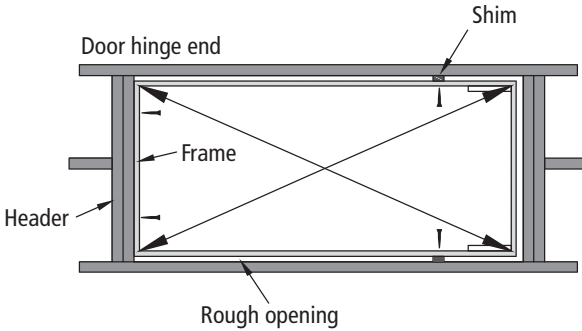

FIGURE 7
F. Make sure frame on door hinge side of ladder is pushed up against header and is centered side to side in rough opening. Temporarily secure frame to header using two 2 ½" deck screws (Figure 7). Do not use pre-drilled holes for deck screws. Pre-drilled holes are used in Step 2.
G. Carefully open attic ladder door but do not unfold the climbing section until indicated in step 3. Center and square the opposite side of attic ladder frame in the rough opening using shims. Ensure ladder frame is square by measuring diagonals of the frame within ⅛" (Figure 7).
H. Secure sides of ladder frame to ceiling joists with 2 ½" deck screws at shim locations (Figure 7). Do not use pre-drilled holes for deck screws. Pre-drilled holes are used in Step 2.